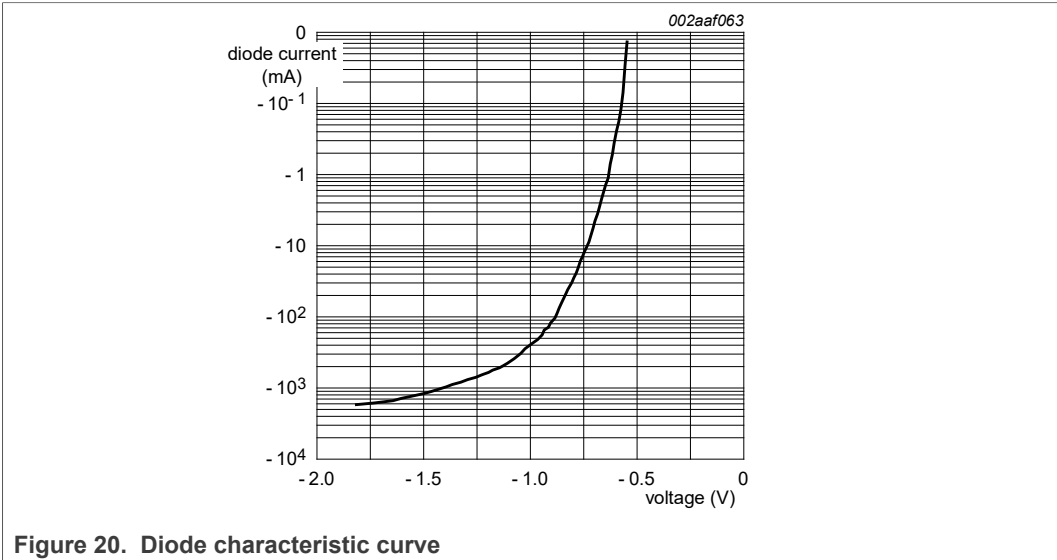

Figure 20. Diode characteristic curve
Figure 20 shows the measured characteristic for one of those diodes inside P82B96. The plot was made using a curve tracer that applies 50 Hz mains voltage via a series resistor, so the pulse durations are long duration (several milliseconds) and are reaching peaks of over 2 A when more than -1.5 V is applied. The IC becomes very hot during this testing but it was not damaged. Whenever there is current flowing in any of these diodes it is possible that there can be faulty operation of any IC. For that reason we put a specification on the negative voltage that is allowed to be applied. It is selected so that, at the highest allowed junction temperature, there will be a big safety factor that guarantees the diode will not conduct and then we do not need to make any 100 % production tests to guarantee the published specification.
For the P82B96, in specific applications, there will always be transient overshoot and ringing on the wiring that can cause these diodes to conduct. Therefore we designed the IC to withstand those transients and as a part of the qualification procedure we made tests, using DC currents to more than twice the normal bus sink currents, to be sure that the IC was not affected by those currents. For example, the Tx/Ty and Rx/Ry pins were tested to at least -80 mA which, from Figure 20, would be more than -0.8 V. The correct functioning of the P82B96 is not affected even by those large currents. The Absolute Maximum (DC) ratings are not intended to apply to transients but to steady state conditions. This explains why you will never see any problems in practice even if, during transients, more than -0.3 V is applied to the bus interface pins of P82B96.
Figure 20 also explains how the general Absolute Maximum DC specification was selected. The current at 25 °C is near zero at -0.55 V. The P82B96 is allowed to operate with +125 °C junction and that would cause this diode voltage to decrease by 100 × 2 mV = 200 mV. So for zero current we need to specify -0.35 V and we publish -0.3 V just to have some extra margin.